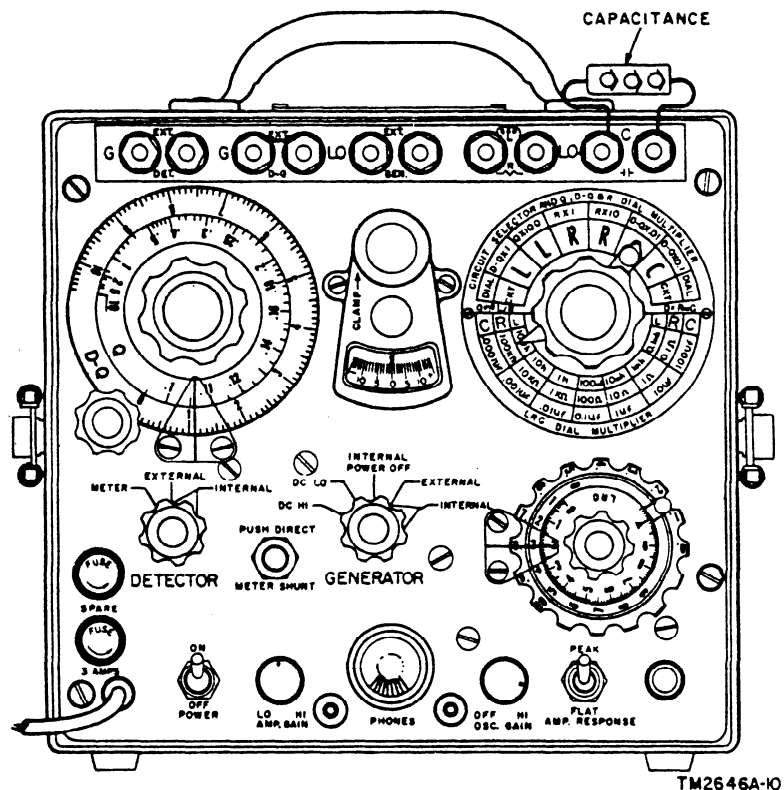
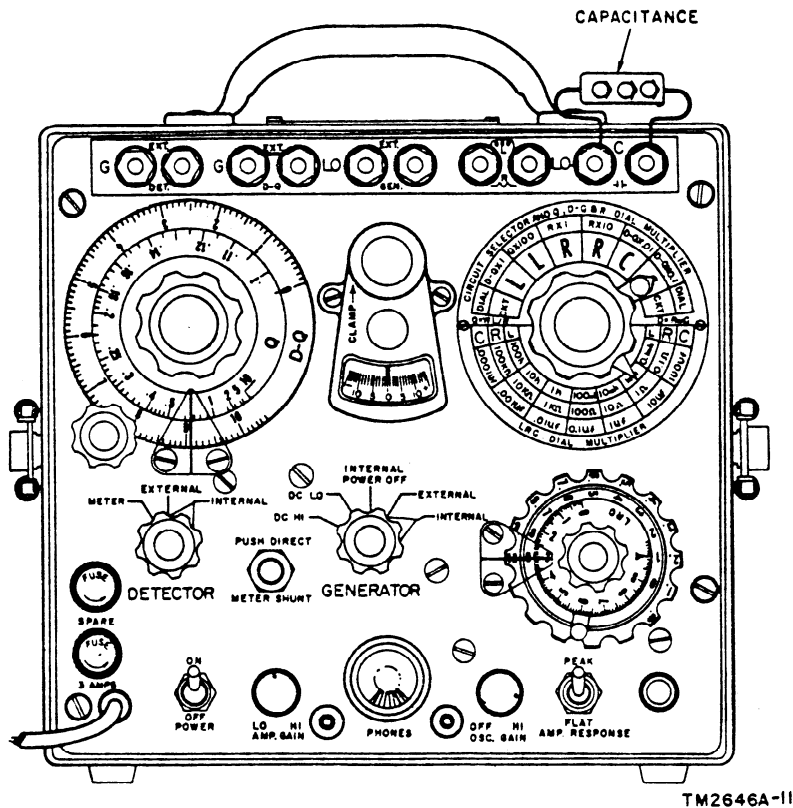

Figure 9. Bridge controls set for measurement of capacitors with dissipation factors (.001 to .105).
Figure 10. Bridge controls set for measurement of capacitors with dissipation factors of .1 to 1.05.
b. Set the circuit selector switch to C and D-Q x .01 position (fig. 9) for capacitors that have dissipation factors (D) below .105 and to C and D-Q x 0.1 (fig. 10) position for capacitors that have dissipation factors between .105 and 1.05. If D is unknown and cannot be approximated, try to obtain a null in both positions of the circuit selector switch (c through i below). The setting that gives the best null indication is the correct setting for the circuit selector switch.
*Example 1:* The controls as pictured in figure 9 are for the final balance positions of a capacitor with a capacitance of 832.1 uuf. Observe and interpret the control readings as follows:
*Example 2:* The controls as pictured in figure 10 are for the final balance positions of a capacitor with a capacitance of 109.3 uf. Observe and interpret the control readings as follows:
*Example 3:* The controls that are shown in figure 9 are for the final balance positions of a capacitor with a dissipation factor (D) of .0110. The control readings are observed as in example 1 above.
*Example 4:* The controls that are shown in figure 10 are for the final balance positions of a capacitor with a dissipation factor (D) of .910. The control readings are observed as in example 2 above.